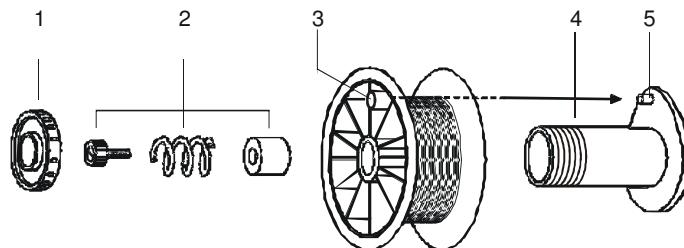

Fig.6 – Coil holder
When positioning the wire coil on the coil holder (4-fig.6), it is necessary to verify the correct positioning of breaking hole (3-fig.6) on the spindle (5-fig.6) of the holder (4-fig.6) in order to maintain the breakage system operationally.
- After this, the wire coil breakage system must be regulated, actuating on the respective screw (2-fig.6). The rotation movement of the wire coil must stops at the same time as the motor.